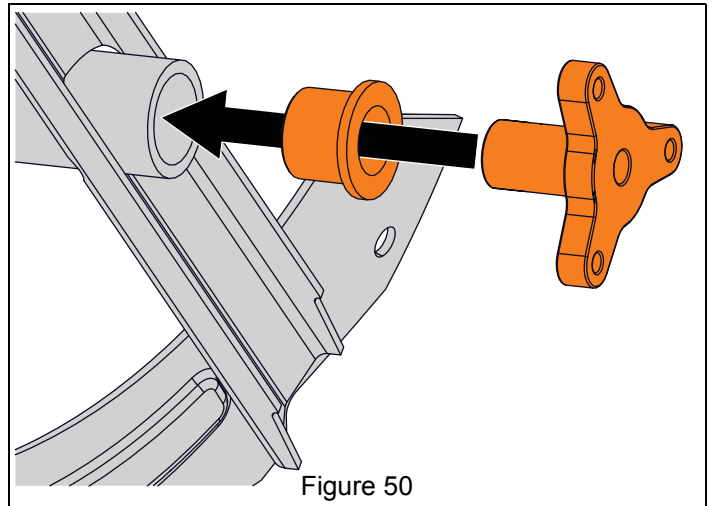

Figure 50
4. Reinstall flange bushing and support bushing onto auger shaft end. See Figure 50.